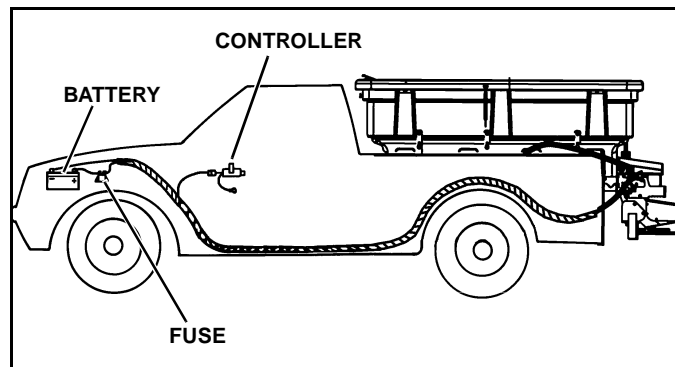

Figure 1-2
*NOTE: Take the extra time needed to plan the routing of the wiring harness before drilling any holes or fastening the harness or toggle switch in place. Read all the instructions carefully to ensure all the required conditions are met for a safe and professional installation (See Figure 1-2).*